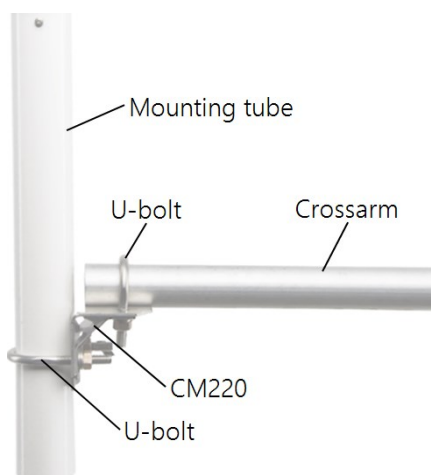

Figure 7-1. ClimaVUE50, MetSENS, or WindSonic Mounting Pipe Kit and crossarm
1. If using a crossarm, attach the mounting tube to the crossarm by using the CM220 Right Angle Mounting Kit, then mount the crossarm to the tripod or tower (Figure 7-1 (p. 16)).